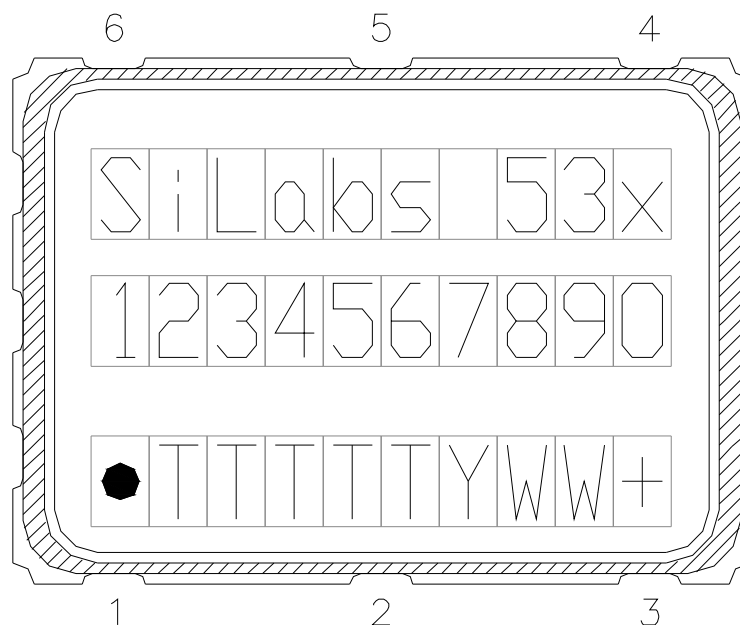

Figure 3. Mark Specification
Figure 3 illustrates the mark specification for the Si530/Si531. Table 13 lists the line information.
- Updated Figure 3 on page 9 and Table 13 on page 9 to reflect specific marking information. Previously, Figure 3 was generic.